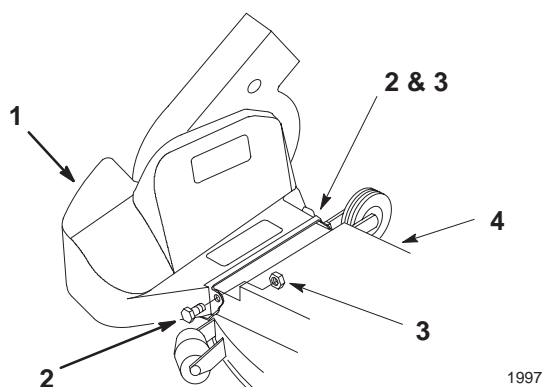

Figure 23
1. Mount the blower belt cover using 2 bolts (1/4 x 5/8 inch) and 2 locknuts (1/4 inch) (Fig. 23).